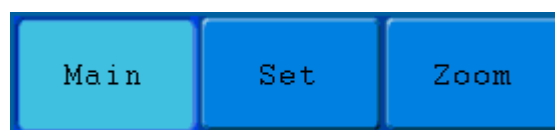

Figure 5-13 Time Base Mode Menu
3. **HORIZ MENU** button: with this button pushed down, the screen shows the operating menu (see *Figure 5-13*).